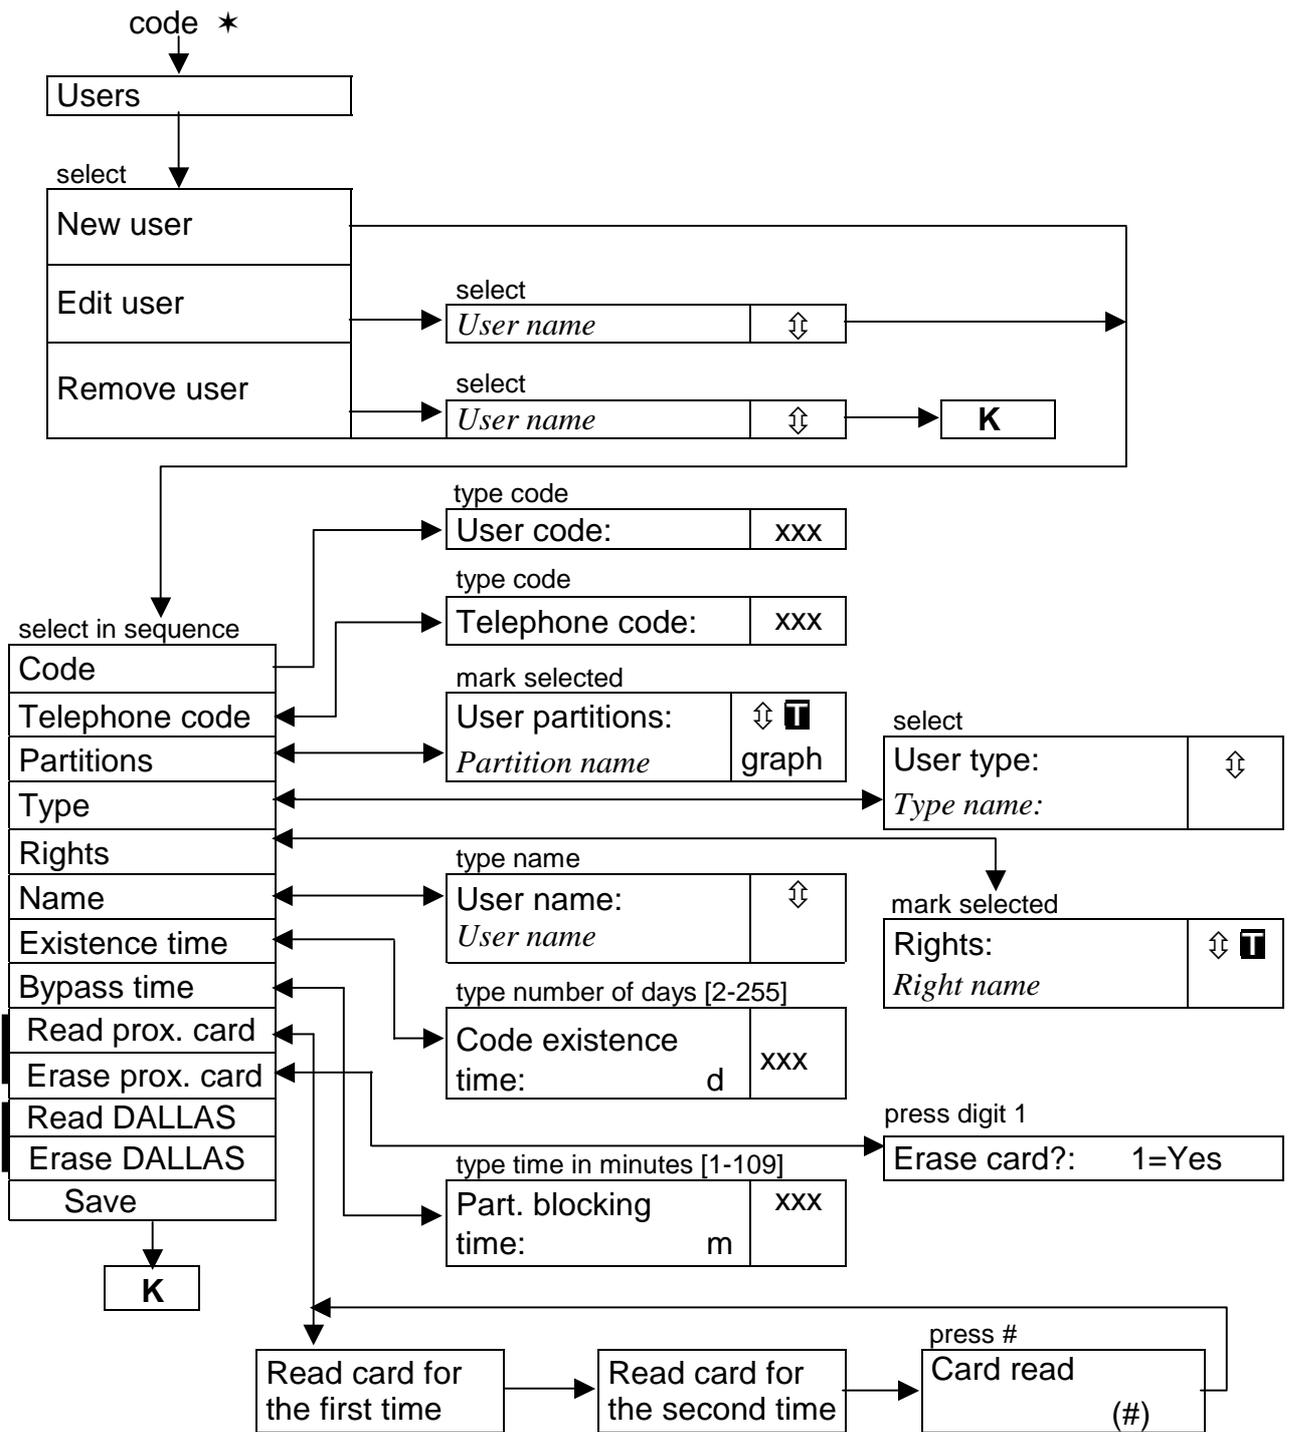

Figure 16
3. **Temporary renewable** – code, for which the validity time period is given when entering a new user. Before the validity period elapses, the control panel reminds the user with such a code that he must change the code. After this change, the validity period is counted down from the beginning. After this user code type is chosen (when entering or editing), the function *Validity period* appears in menu (see Figure 16), where number of code validity days should be defined.
4. **Temporary non-renewable** – code, for which the validity time period is limited to the number of days specified when entering a new user. After this user code type is chosen (when entering or editing), function *Validity period* appears in the menu (see Figure 16), where the number of code validity days should be defined. Validity period may be changed for this code type by the user, who entered a new user, or by the administrator or the service.
appears in menu (see Figure 16), where partition bypass time period should be defined.